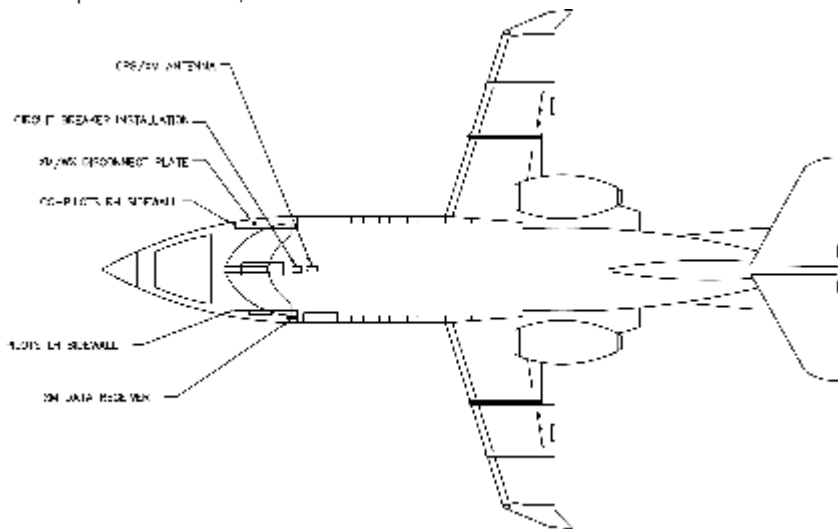

FIGURE 1 - INSTALLATION OVERVIEW
- » The XM weather receiver installation consists of a XM data receiver, XM/WX RS422 to USB data converter, a DC power converter, a circular data port connector, and a GPS/XM antenna. The XM weather receiver, XM weather data converter, and DC power converter are located in the pilot's sidewall. The circular XM weather data port connector is installed on the forward area of the copilot's sidewall panel. The GPS/XM antenna is located on the upper fuselage. Refer to Figure 1 for details.